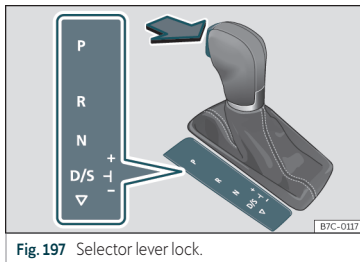

Fig. 197 Selector lever lock.
- Press the brake pedal *and*, at the same time, hold the lock button in the direction of the arrow >>> **Fig. 197**.